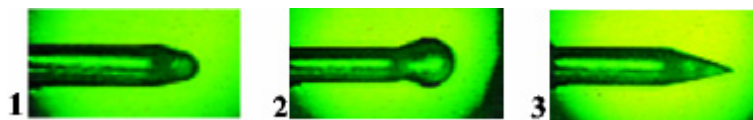

Figure 4-2
The Electrospray operating parameters set in the "Starting Up the Electrospray" section should result in a stable generation of aerosol in the Cone-Jet mode of the Electrospray (see below for an explanation of the "Cone-Jet" mode). Once the liquid is flowing from the capillary tip, the high voltage can be adjusted to achieve different Electrospray operating modes. Four distinct modes (see Figure 4-2) can be observed through the viewing window or by the current LED display as the electric field is increased by increasing the high voltage: Dripping mode, Pulsating mode, Cone-Jet mode,
and Corona Discharge mode. Figure 4-2 shows three photographs of the capillary tip viewed through the viewing window.
- ❑ **Dripping mode** (view 2 in Figure 4-2) occurs when a primary droplet builds up on the end of the capillary until it becomes large enough to be pulled away by the weak electric field. The current display is usually near zero in this mode. Inspection through the viewing window shows the primary droplet increasing in size until it is pulled away at a very low frequency. As the voltage is increased in this mode, the primary droplet size decreases.
- ❑ The **Cone-Jet mode** (view 3 in Figure 4-2) occurs when the electric field strength is balanced with the liquid properties. A visual inspection shows the conical shape of the profile (Taylor Cone), but the jet of primary droplets cannot be seen since the primary droplets are very small. As voltage is increased, the profile does not change significantly while in this mode; in addition, the total current reading changes very little. The cone-jet mode is the most stable and useful mode for generating aerosols. The voltage setting in this mode is typically 2.00 to 2.50 kV using a 20 mM ammonium acetate buffer solution.